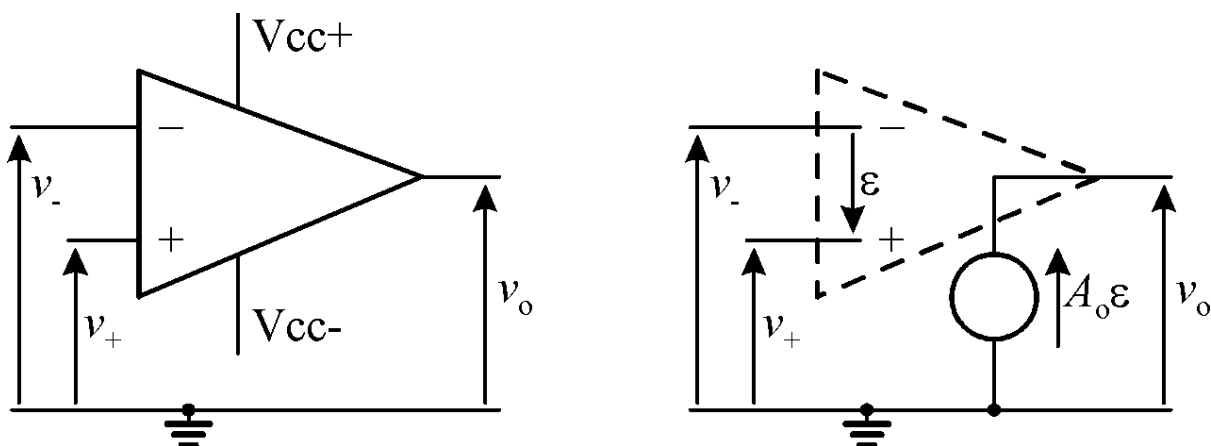
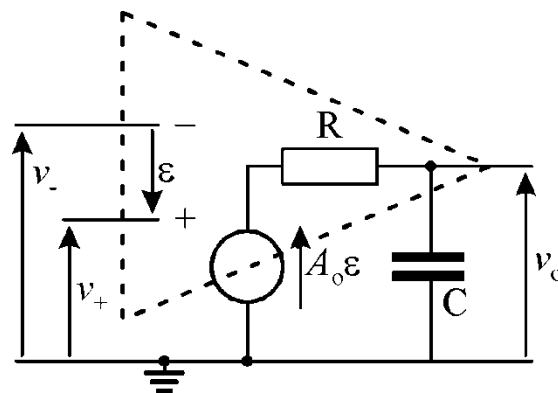
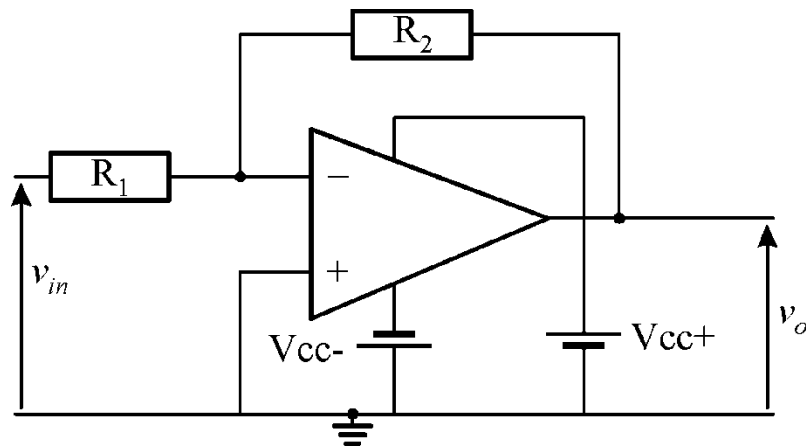

FIGURE 1. Op-amp symbol and ideal equivalent circuit.
FIGURE 2. Improved op-amp equivalent circuit.
FIGURE 3 The Inverting Amplifier
The device has two input terminals to which voltages v_- and v_+ are applied, and one output terminal at which v_o is produced. The conventional symbol for the op-amp is shown in Figure 1 together with its ideal equivalent circuit model. Note that power supply connections are not relevant to the model and hence are not normally shown.
Note that A_o is the **open loop** gain of the amplifier and is very high, usually in excess of 100,000. Feedback is used to reduce the gain to more sensible levels. The equivalent circuit in Figure 1 and its description by equation (1) are simplistic but give a good idea of performance at low frequencies. A more complete equivalent circuit contains a resistor and capacitor in the output circuit (Figure 2) to model behaviour at higher frequencies. Analysis of this circuit reveals that
- ◇ Using the Figure 1 equivalent circuit for the operational amplifier and equation (1), derive equation (3) for the circuit of Figure 3.
The op-amp is utilised in simple circuits by connecting appropriate linear impedances to the input terminals and between the output and input terminals. These impedances are known as input and feedback impedances respectively. The simplest such configuration, formed by connecting resistors in the input and feedback paths, as shown in Figure 3, results in an inverting amplifier. We are going to use the TI experimenter board and you should connect $\pm 10\text{V}$ supplies to the board. Note the very important point that the centre connection of the power
Connect up the circuit in Figure 3 with $R_1 = 10\text{k}\Omega$ and $R_2 = 100\text{k}\Omega$, and apply a sine wave to v_{in} with a peak-peak amplitude of approximately 1V and a frequency of around 300Hz. Hint: There are several op-amps fitted to the board. Choose a suitable configuration! Use the XY facility on the oscilloscope to display the transfer characteristic (v_o vertical against v_{in} horizontal), and record it in your laboratory logbook.